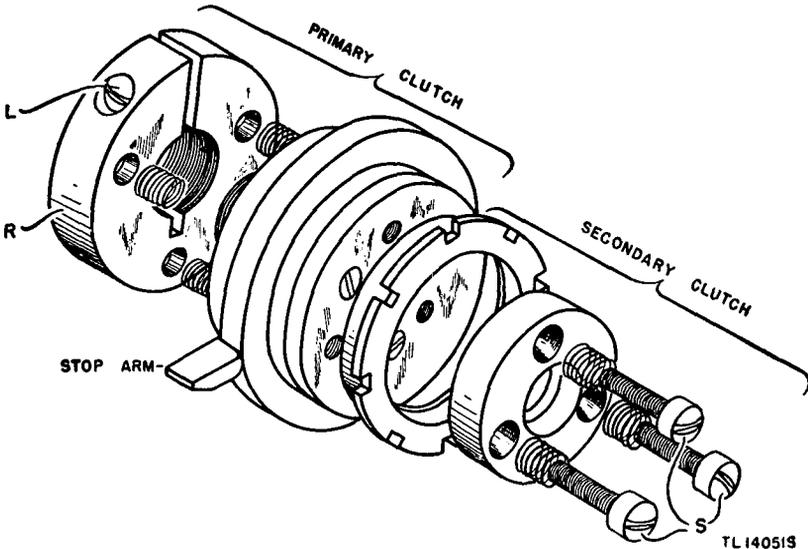

Figure 33.1. Clutch assembly.
c. CLUTCH (figs. 33.1 and 23.2) (Added). (1) With the motor running and the drum turning, the primary clutch tension measured at the periphery of the drum should be 12 to 14 ounces. To adjust the tension, loosen locknut L, turn the clutch spring retainer R, and again tighten the locknut.
(2) The secondary clutch tension as measured at the periphery of the drum should be approximately one-half (6 to 7 ounces) that of the primary clutch tension and is measured under the following conditions:
(3) To adjust the secondary clutch tension, it is necessary to remove the leadscrew and drum assembly, loosen or tighten screws S (fig. 33.1), reassemble leadscrew and drum assembly and recheck tension in accordance with (2) above.
(4) The leadscrew and motor shaft must be in alignment for proper operation of the clutch and drive assembly.